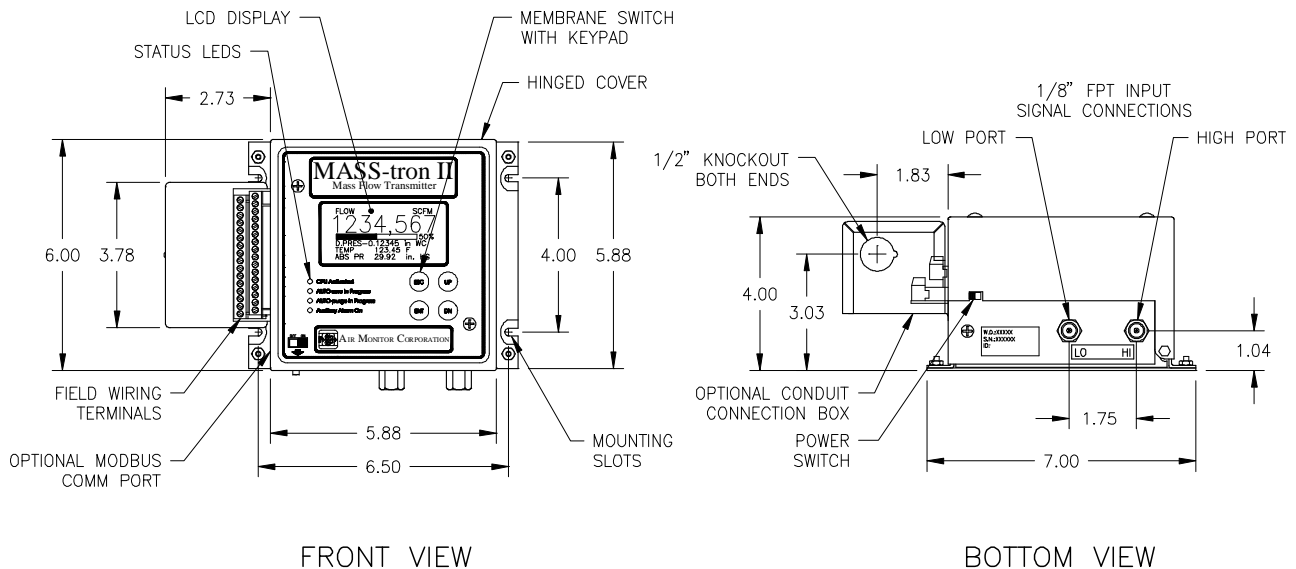

Figure 4.1
When connecting or disconnecting any wiring to the MASS-tron II, the unit's power switch (see Figure 4.1) must be in the OFF position.
Modbus TCP/IP	Connection is made via Ethernet cable port (see Figure 4.1) below terminal strip
1. After Installation has been verified in accordance with Section 4, turn power switch located at the lower front side to the ON position (see Figure 4.1).